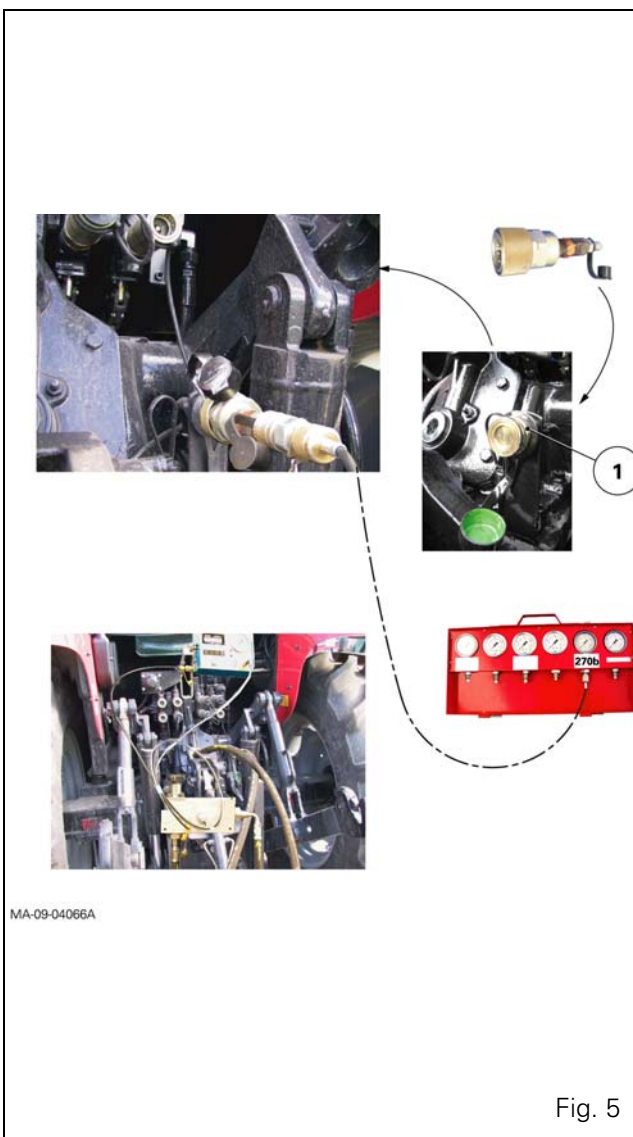

Fig. 5
- Connect a pressure gauge to the trailer brake connector (1) (Fig. 5).